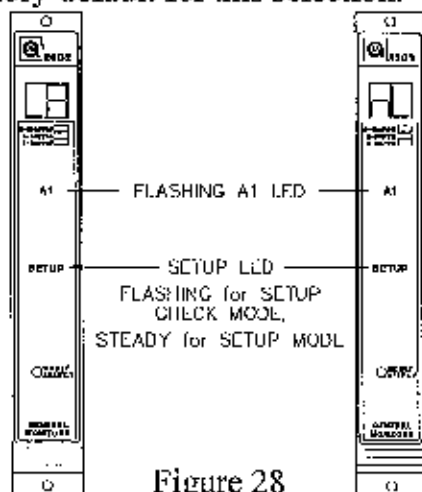

Figure 28
- The **A1** LED on the front panel will be flashing while the latching/non-latching option is displayed (figure 28). The display will indicate the current selection, (**nL** or **LA**). Press the Mode/Select switch until the desired option is displayed. Non-Latching is the factory default for this selection.